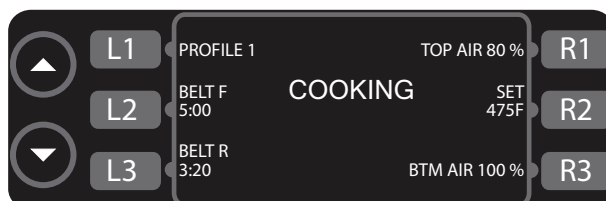
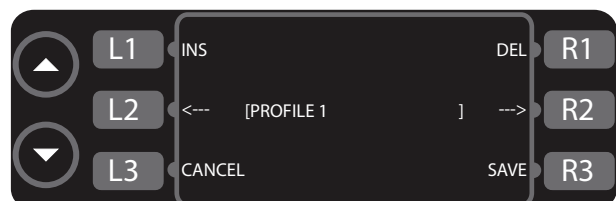

Figure 14: Cooking Screen
Figure 15: Name Change Screen
When the rigid option is enabled for a given setting, the soft key adjacent to that setting (Figure 14) is disabled and no menu editing is allowed.
1. From the cooking screen (Figure 14), press L1 to access the name change screen (Figure 15).
1. From Figure 14, press the soft key adjacent to the conveyor belt you wish to adjust (press L2 for the front belt [Belt F] or L3 for the rear belt [Belt R]).
1. Press R2 (Figure 14, page 13) to access the temperature controls.
1. Press R1 (Figure 14, page 13) to access the top air controls, or R3 to access the bottom air controls.